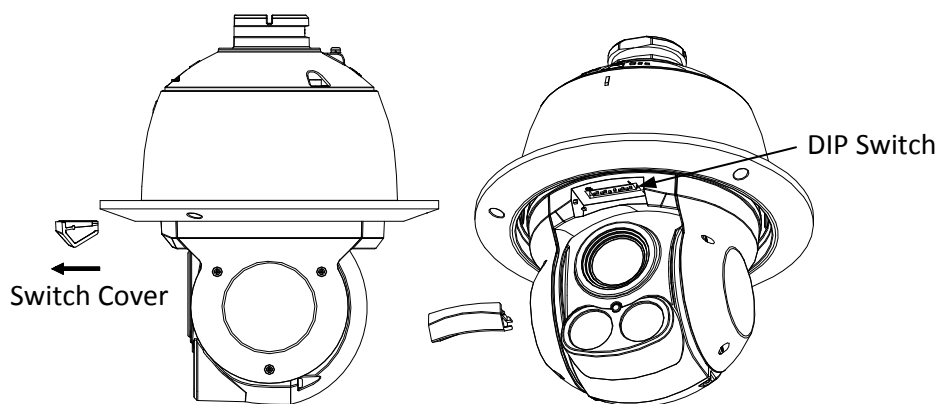

Figure 2-11 DIP Switch of Mini IR Speed Dome
1. Remove the switch cover as shown in Figure 2-11(left).